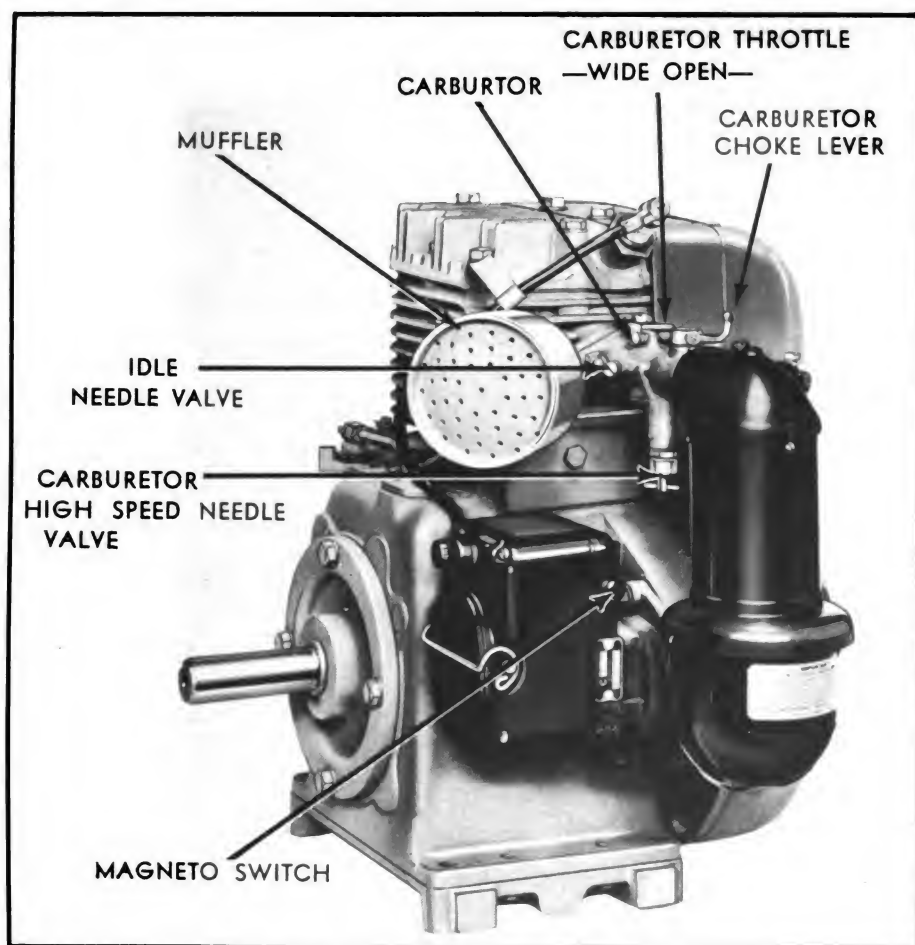

FIG. 41 Gasoline Engine—Side View
I. Carburetor (See Fig. 41)
2. Choke (See Fig. 41)